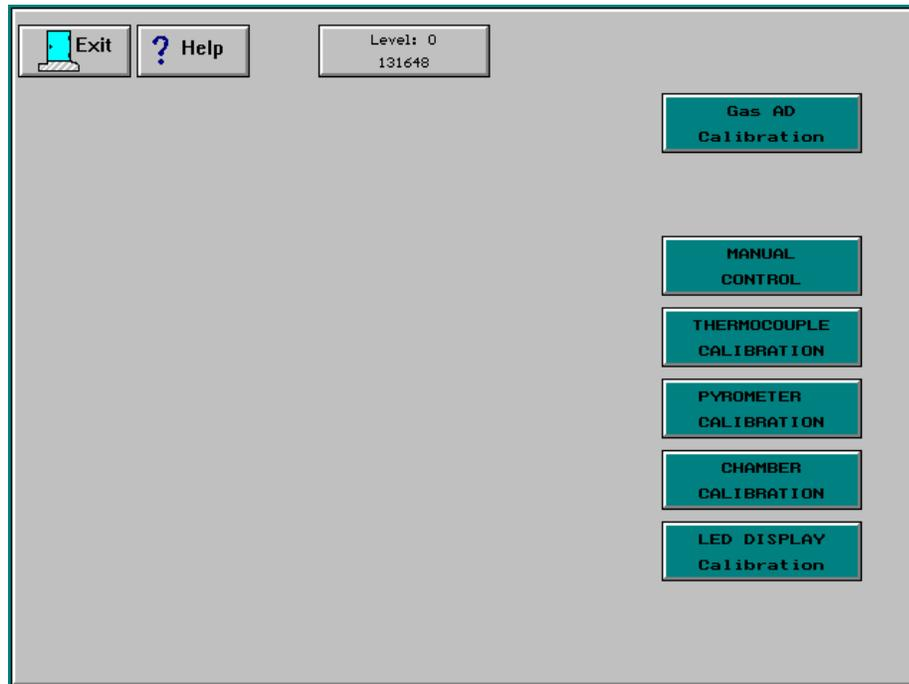
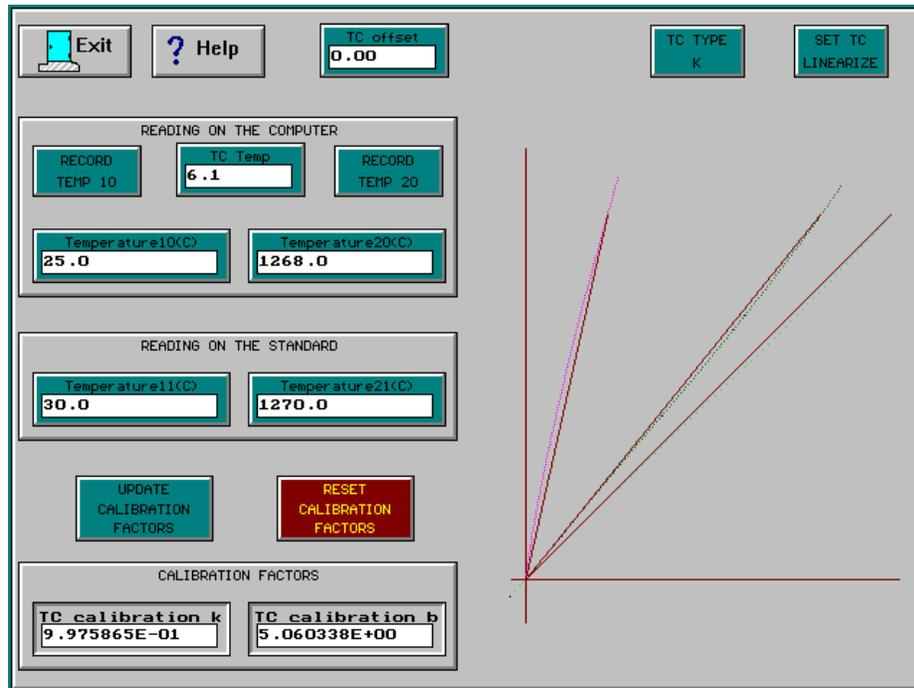

Figure 10-11: Calibration Menu
Figure 10-13: Thermocouple Calibration screen
Calibration of the AccuThermo RTP system is done entirely from within the software for maximum performance and accuracy. The calibration functions are automated which means less time is spent calibrating the system. There are calibration routines for the pyrometer, thermocouple circuit, LED display circuit and gas flow circuits, along with calibrating the chamber dynamics, as presented on the *Calibration Menu* (Figure 10-11). Calibration is done at the factory and does not need to be repeated for installation.
The AW-900 software has the ability to calibrate the AccuThermo RTP system for maximum performance and accuracy. The calibration functions are automated which means less time is spent calibrating the system. The calibration routines in the AW-900 software are for calibrating the thermocouple, pyrometer, chamber, and gas feedback, as presented on the *Calibration Menu* (Figure 10-11).
Thermocouple Calibration, figure 10-13, is used to correct for any offset that might develop in the thermocouple circuitry. There are 2 kinds of offset: the zero offset (k) and the linear offset (b).
The following is a step-by-step procedure for calibrating the thermocouple. The **TC Temp** field on the *Thermocouple Calibration* screen (figure 10-13) always displays the temperature from the TC A/D channel.
- Step 4. Go to the *Thermocouple Calibration screen*, figure 10-13, by clicking on the **Thermocouple Calibration** button from the *Calibration Menu*, figure 10-11.